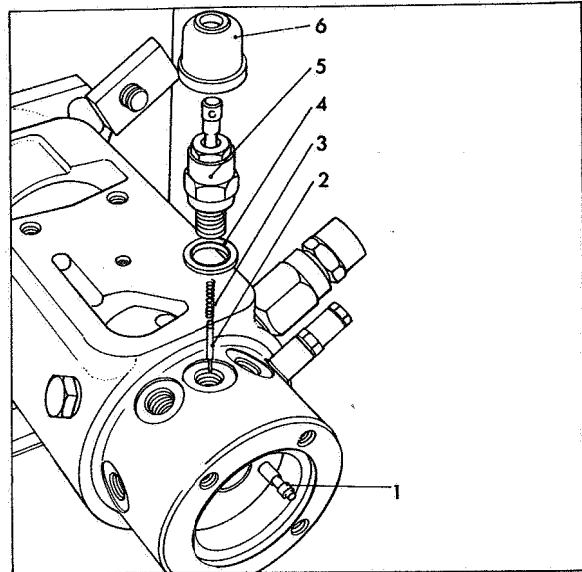

Fig 90 Inserting dumb-bell valve
Holding the grooved end, insert the dumb-bell valve (1) into its bore as shown in Fig 90. Looking down the excess fuel device bore, gently push dumb-bell valve along until the groove lines up with the latch pin hole. Assemble latch pin (2) with the small spigot end engaging in the groove of the dumb-bell valve.